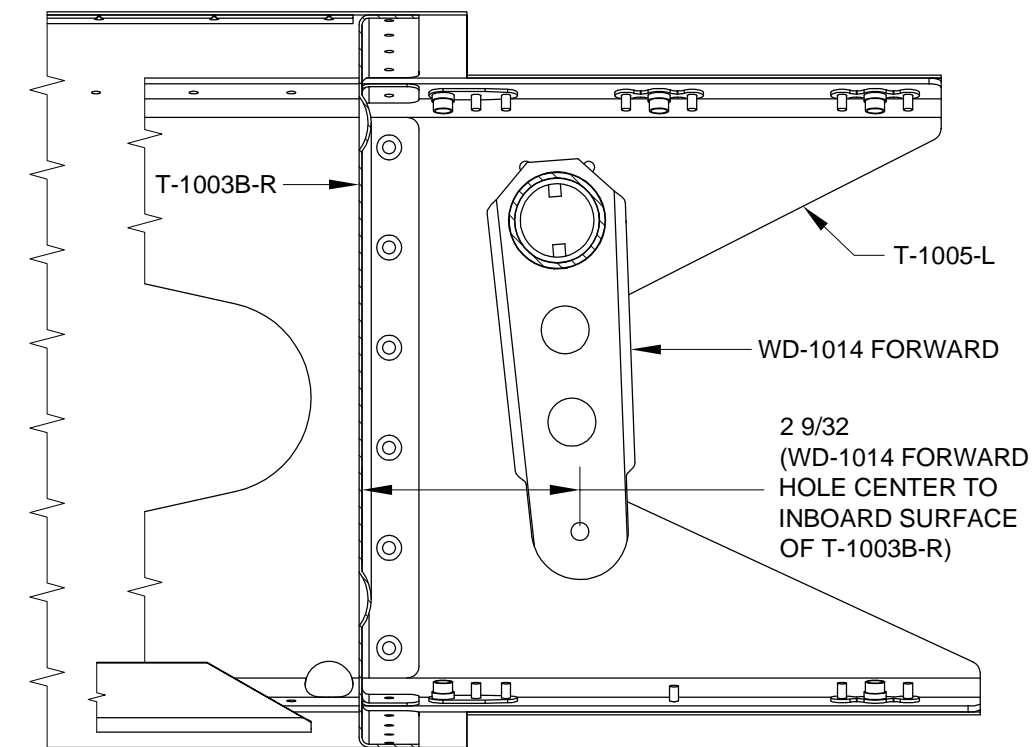

FIGURE 2:
Step 5: Figure 2 shows the "neutral position" of the WD-1014 FORWARD Forward Torque Tube Subassembly. The correct rigging of the aileron actuation system is defined by the forward torque tube subassembly, WD-421 Aileron Bellcrank, and Aileron all being in their neutral positions at the same time.